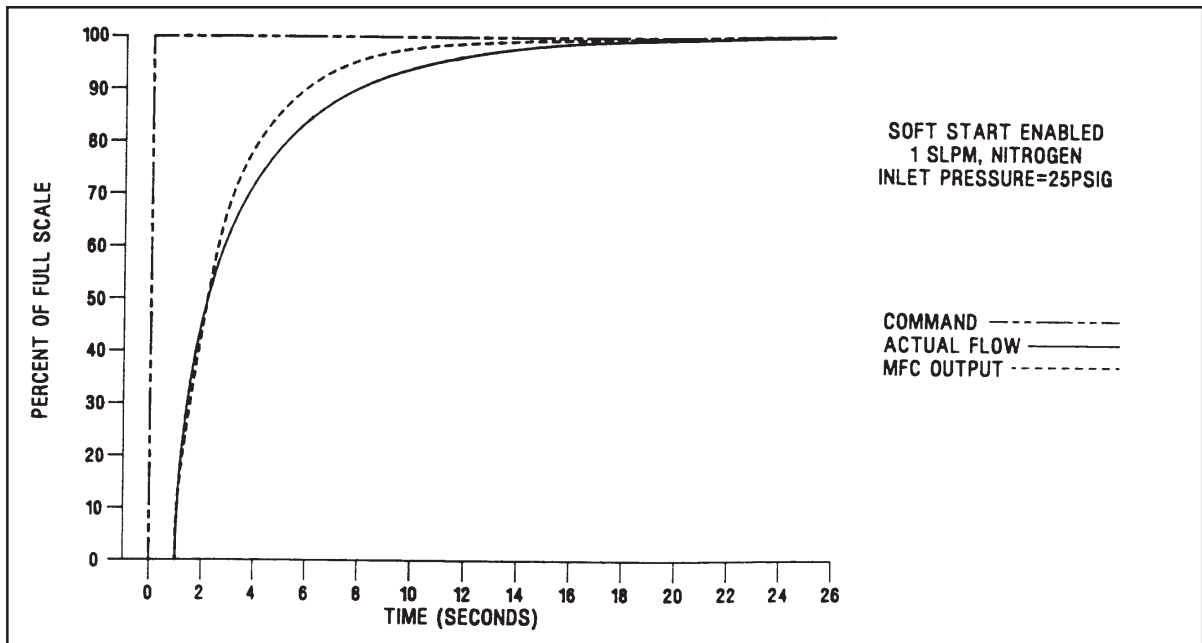

Figure 1-1 0 to 100% Command Step, Soft Start Enabled
- **Soft start** provides a flow ramping function which slows down the introduction of process gas for those processes which cannot tolerate rapid flow transition. Refer to section 2-7 and Figure 1-1.